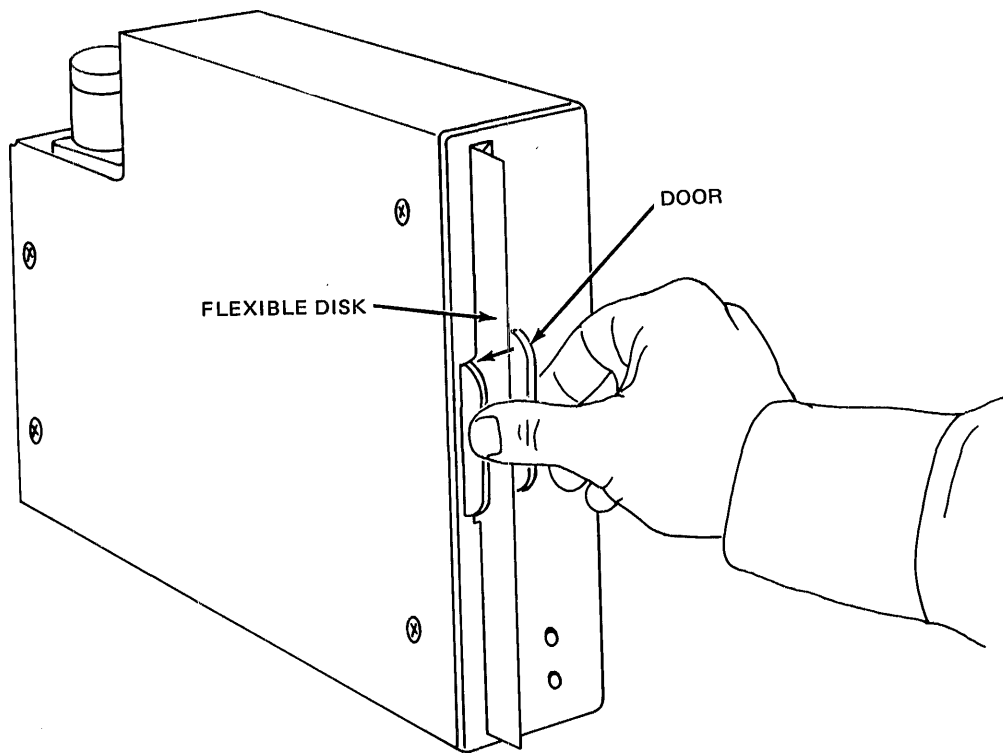

Figure 2-13 Closing the Door of the FD1165
- b. Insert a flexible disk into the FD1165 until the flexible disk locks in place and close the door (see Figure 2-13).